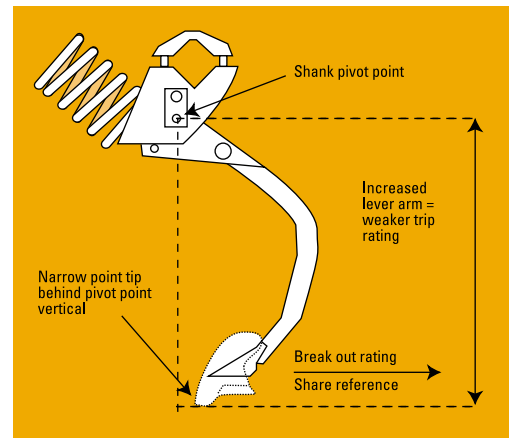

Figure 1. Tine considerations when fitting narrow points
- **Narrow points** extend further below the tip of the shank than do standard sweeps (see Figure 1). Depending on tine geometry and narrow point type, this can require up to a 20% stronger **breakout force** (BOF).